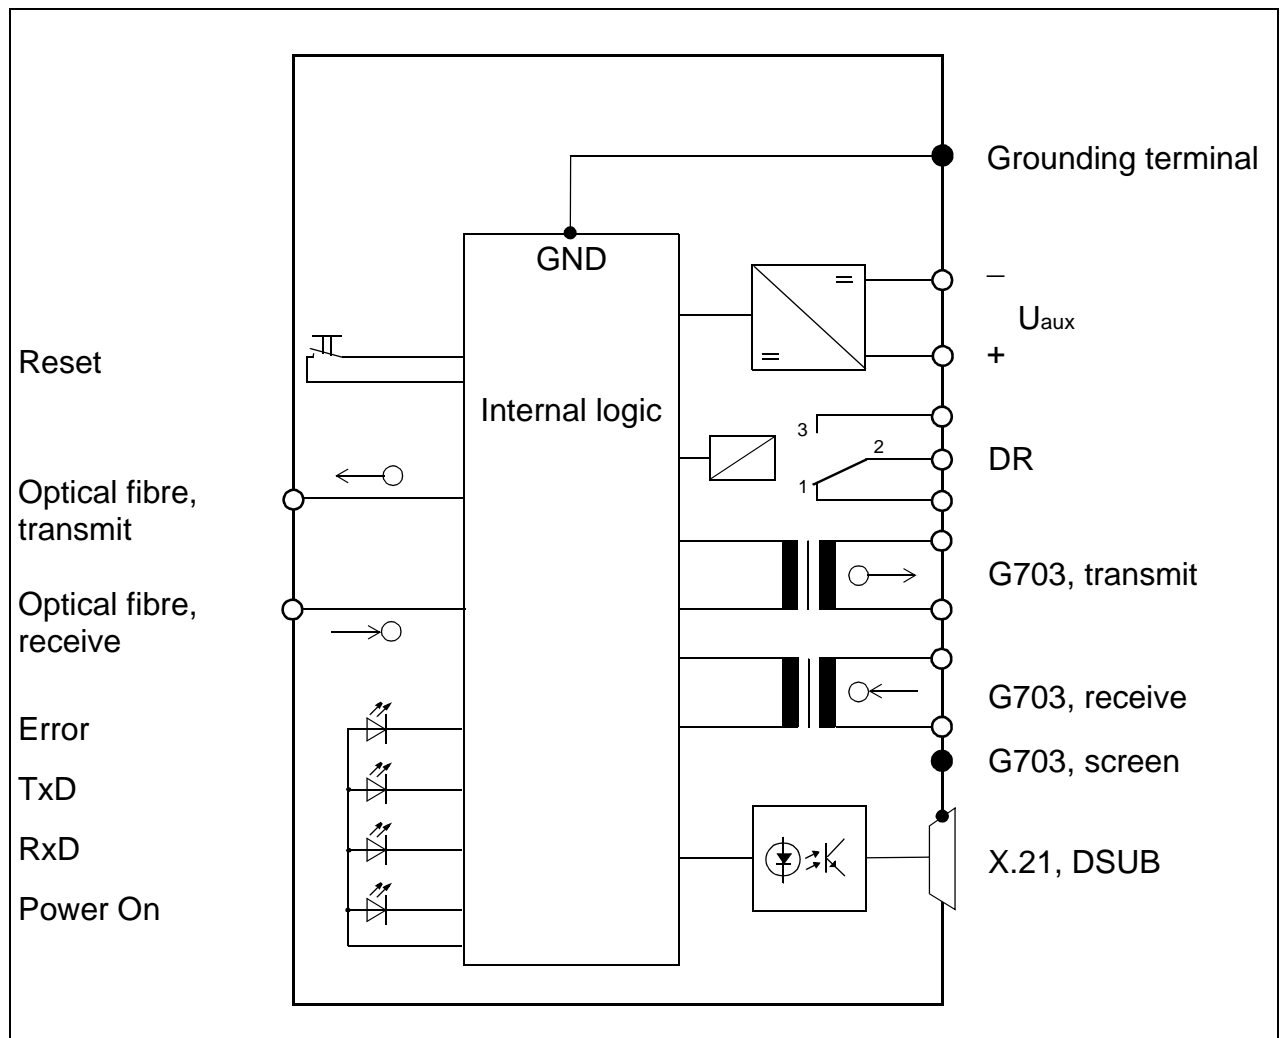

Figure 21 Hardware structure of the CC-S₀
The task of the CC-S₀ is to perform an adaptation of the available fibre optic active interface in the protection device (DTE) to the physical specification of the respective interface of the communication network (DCE). The adaptation occurs synchronously and completely bit-transparent, i.e. direct forwarding of the information without adding or filtering out information. Figure 21 shows the hardware structure.
- ❑ **X.21:** The signals of the X.21 interface must be applied to the 15-pole DSUB–connector (X.21). The cable screen is connected to the housing. The X.21 signals are electrically isolated from the other electrical circuits (Figure 21).
- ❑ **G703.1:** The signals of the G703.1 interface must be applied to the 5-pole screw terminal (G703) (one incoming and one outgoing pair of strands in each case). The fifth screw terminal adjacent on the left ('S') is for contacting the cable screen and is connected to the housing. The G703.1 signals are electrically isolated from the other electrical circuits (Figure 21).